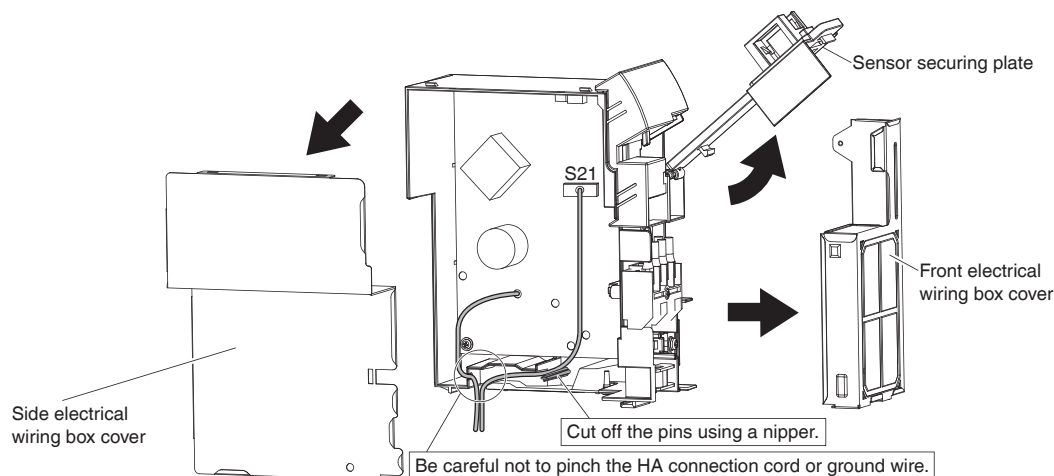

Fig. 3
- 2) Open up the sensor securing plate. (See Fig. 3)
- 3) Remove the front electrical wiring box cover (4 tabs). (See Fig. 3)
- 7) Remove the side electrical wiring box cover (7 tabs). (See Fig. 3)
- 8) Cut off the pins using a nipper. (See Fig. 3)
- 9) Wire and connect the HA connection cord to the S21 connector. (See Fig. 3)